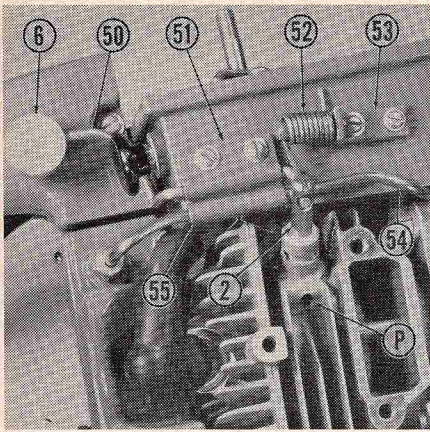

Fig. HL115—View showing compression relief mechanism; all models except XL-101 are so equipped.
**COMPRESSION RELIEF.** Except for model XL-101, all models are equipped with compression relief; refer to Fig. HL115. When the throttle lock (6) is pushed in, lever (50) lifts plunger (2) against spring (52) pressure.